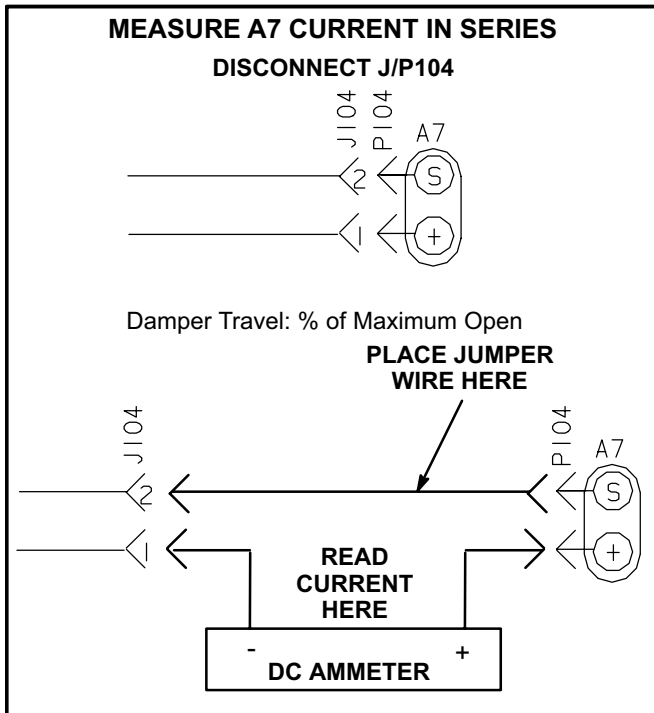

FIGURE 37
- 1- Connect a DC ammeter as shown in figures 37 and/or 38.